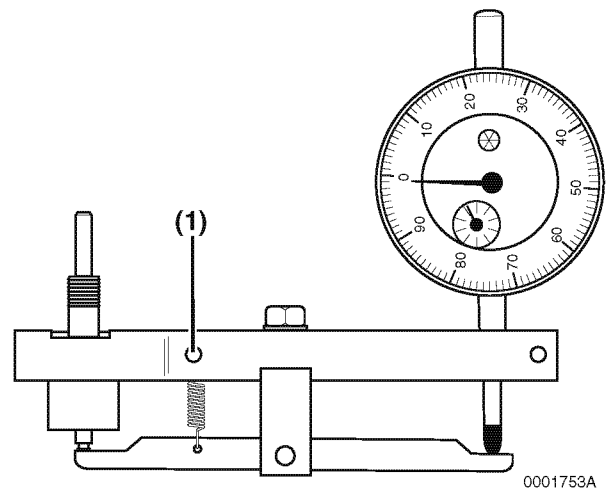

Figure 7-57
3. Locate Yanmar timing tool (P/N 119770-02020) (**Figure 7-57, (1)**). Install a dial indicator into the timing tool.